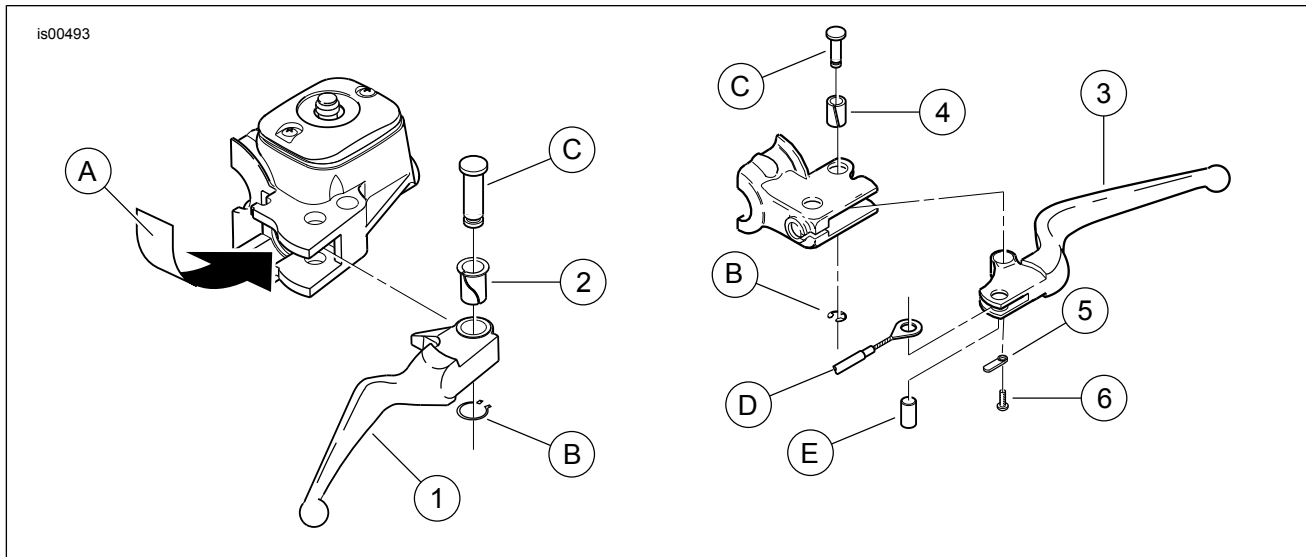

Figure 1. Service Parts: Hand Control Lever Kits
See Figure 1 and Table 1.
1. See Figure 1 and the FRONT BRAKE MASTER CYLINDER section of the Service Manual. Remove the retaining ring (B) from the groove in the pivot pin (C). Save the retaining ring for re-use.